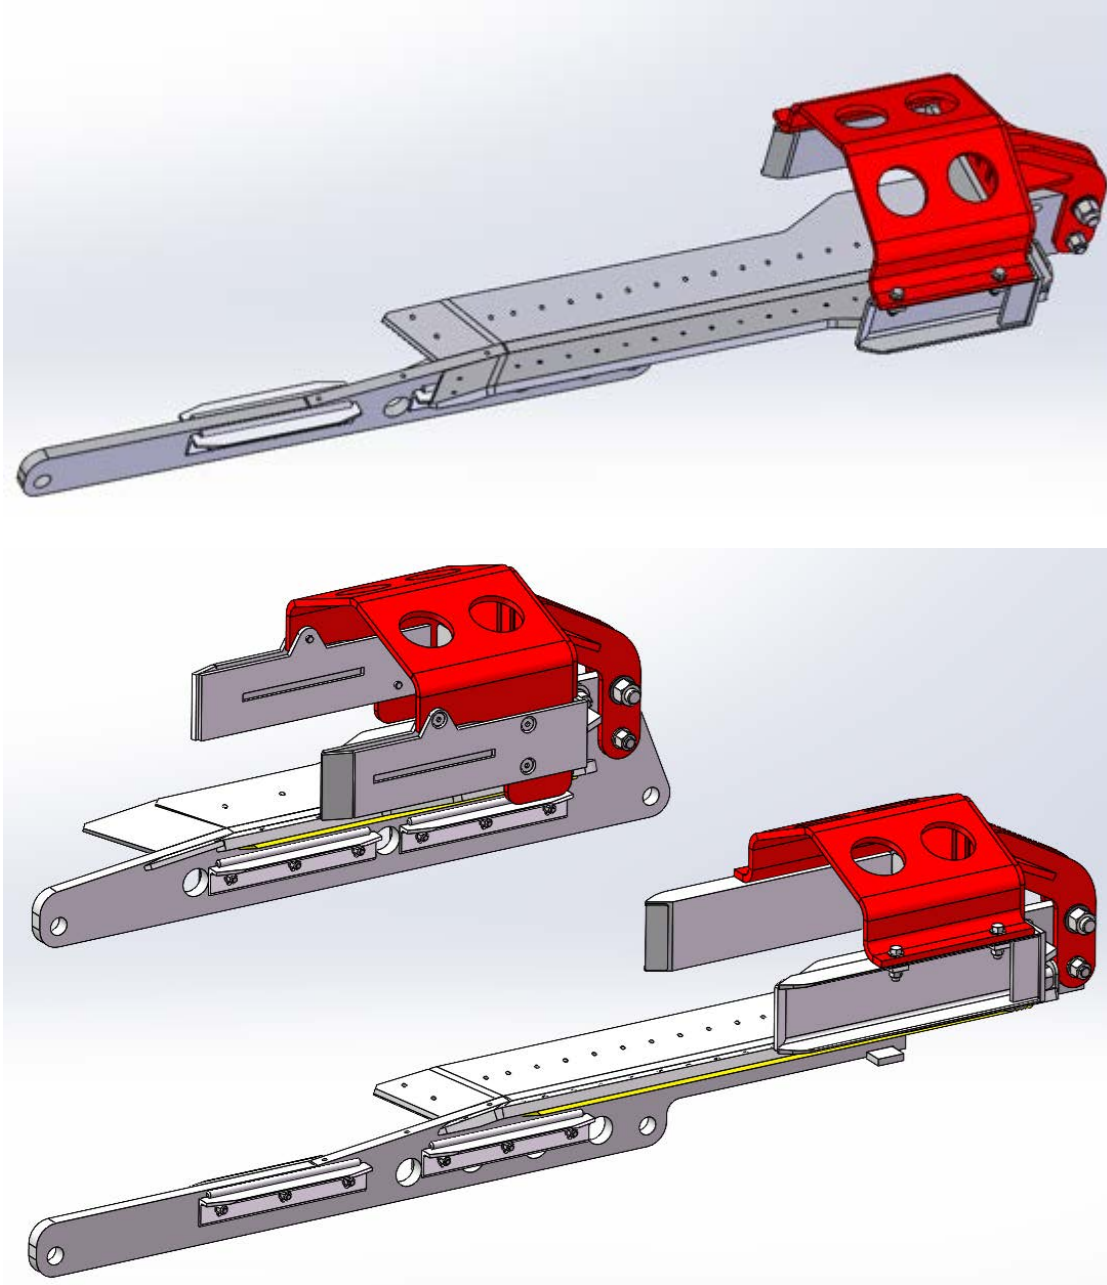

Figure 1: Skate for regular operation
- Use skate cage for regular operation for tubulars up to 15" OD. See Figure 1 on page 2.
This skate cage or any of its variants (Figure 1) can handle tubulars up to 15" OD. Tubulars above 15" will not fit on it.